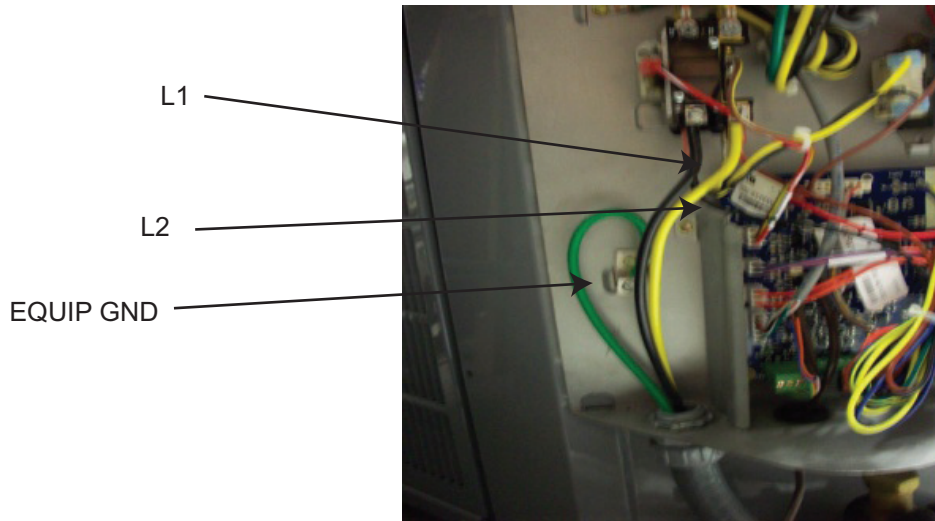

Fig. 1 - Power Supply Wiring
4. Disconnect line power supply wiring (L1, L2 and EQUIP GND) from unit contactor terminals 11, 23 and ground lug, as shown in Fig. 1.